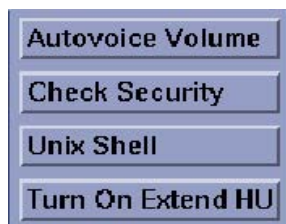

Figure 1-23 Turn On Extend HU
- 1.) For all LightSpeed RT Systems: Click on the TURN ON EXTEND HU button. See Figure 1-23.